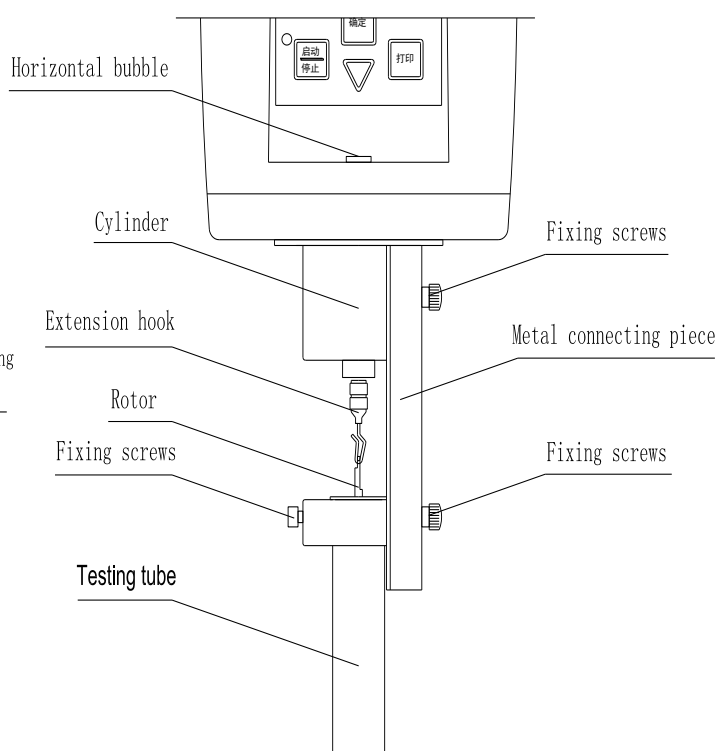

Fig. 10
(4) Put the testing tube into the fixing ring, and then tighten the screw at the side surface of the fixing ring.
(5) Attach the fixing ring to the metal connecting piece with the fixing screw.
(6) Fix the well installed metal connecting piece to the bottom casing of the main machine of the viscometer. The well installed part is shown as Fig. 10.